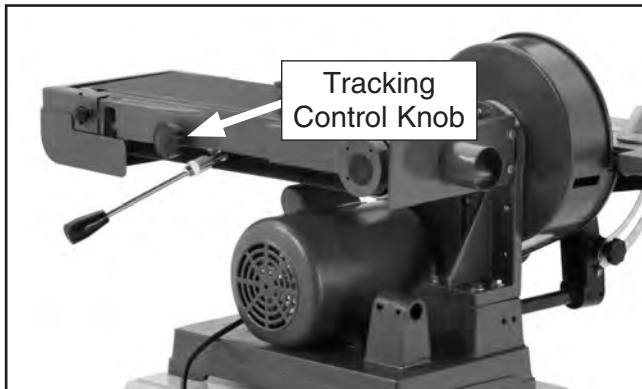

Figure 78. Tracking control knob.
5. Turn the sander **ON**, and using the tracking control knob (**Figure 78**), carefully adjust the tracking in or out until the sanding belt is centered on the main roller (see **Figure 45, Page 27**).